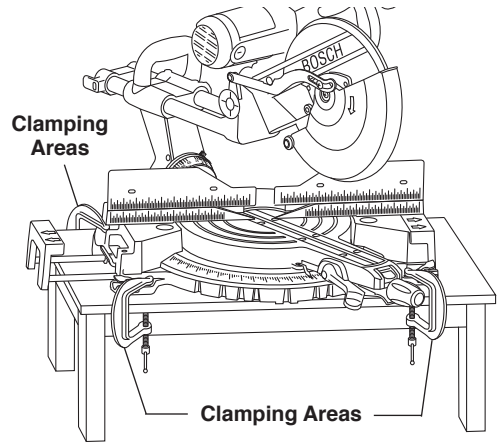

Figure 15. Portable Mounting Using Clamps
- Place two (2) or more "C" clamps on the clamping areas and secure (Figure 15).
- Be careful not to place clamps over the base extension clamping levers (Figure 15).